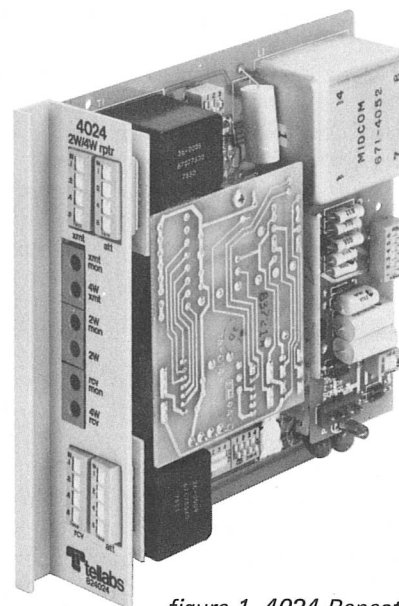

figure 1. 4024 Repeater
1.01 The Tellabs 4024 2Wire to 4Wire Repeater (figure 1) provides level control, equalization and impedance matching between 4wire and 2wire voice-frequency transmission facilities. In effect, the single 4024 module functions both as a line amplifier and as a terminating set, and is commonly referred to as a 24V4-type repeater.